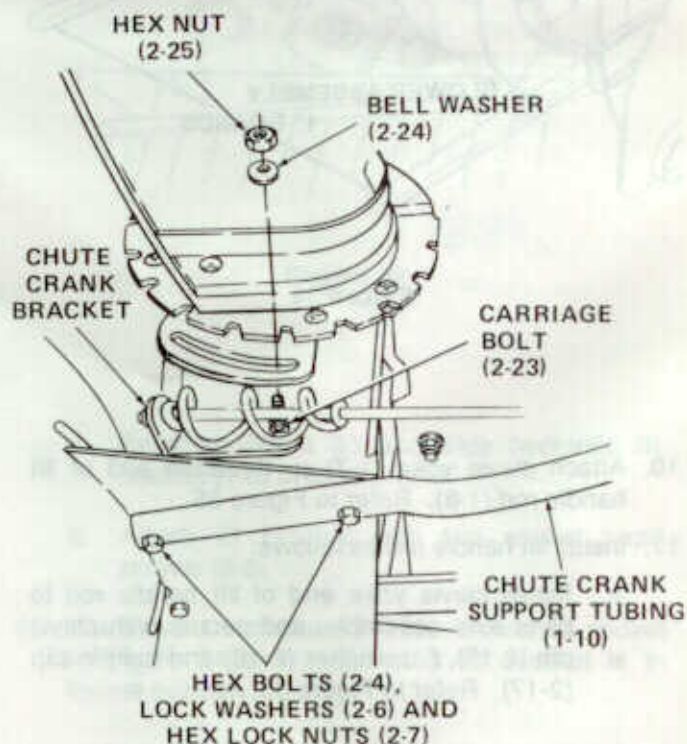

Figure 40
- a. Position chute crank with support tubing as shown in Figure 40, and secure with hex bolts (2-4), lock washers (2-6) and hex lock nuts (2-7).
- b. Attach chute crank bracket to extension on left side of chute opening. Bracket goes beneath extension as shown in Figure 40. Secure with carriage bolts (2-23), bell washers (2-24) and hex nuts (2-25). Do not tighten hardware at this time.